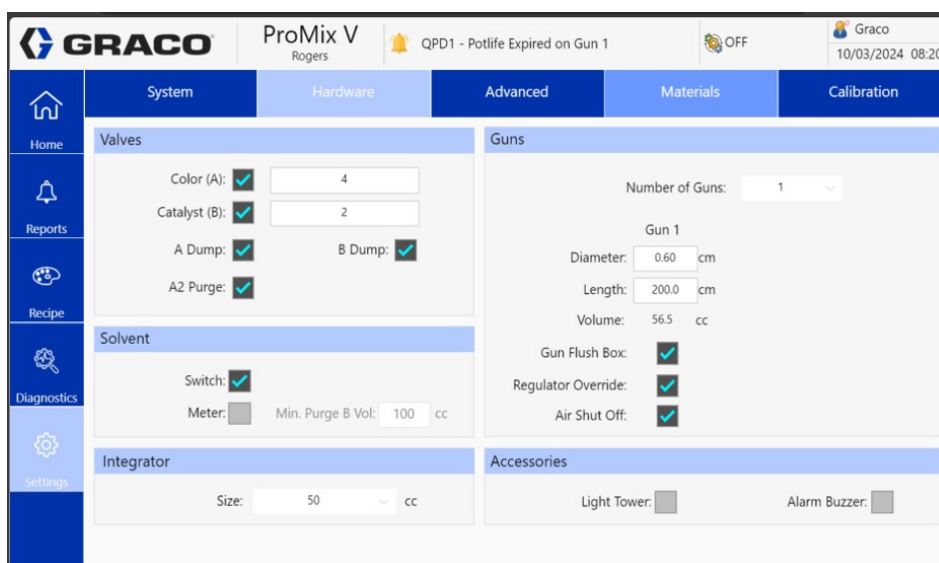

FIG. 3
- c. Navigate to the Settings tab, then navigate to the Hardware tab. Check any new hardware to enable. See FIG. 3.